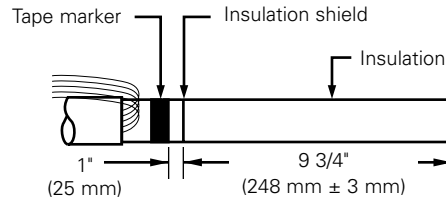

Figure 16. Line illustration of cable stripback.
- Remove insulation shield 9 3/4" (248 mm) from end of cable. Refer to Figure 16.
- Measure 1" (25 mm) from end of insulation shield. (Refer to Figure 16.)